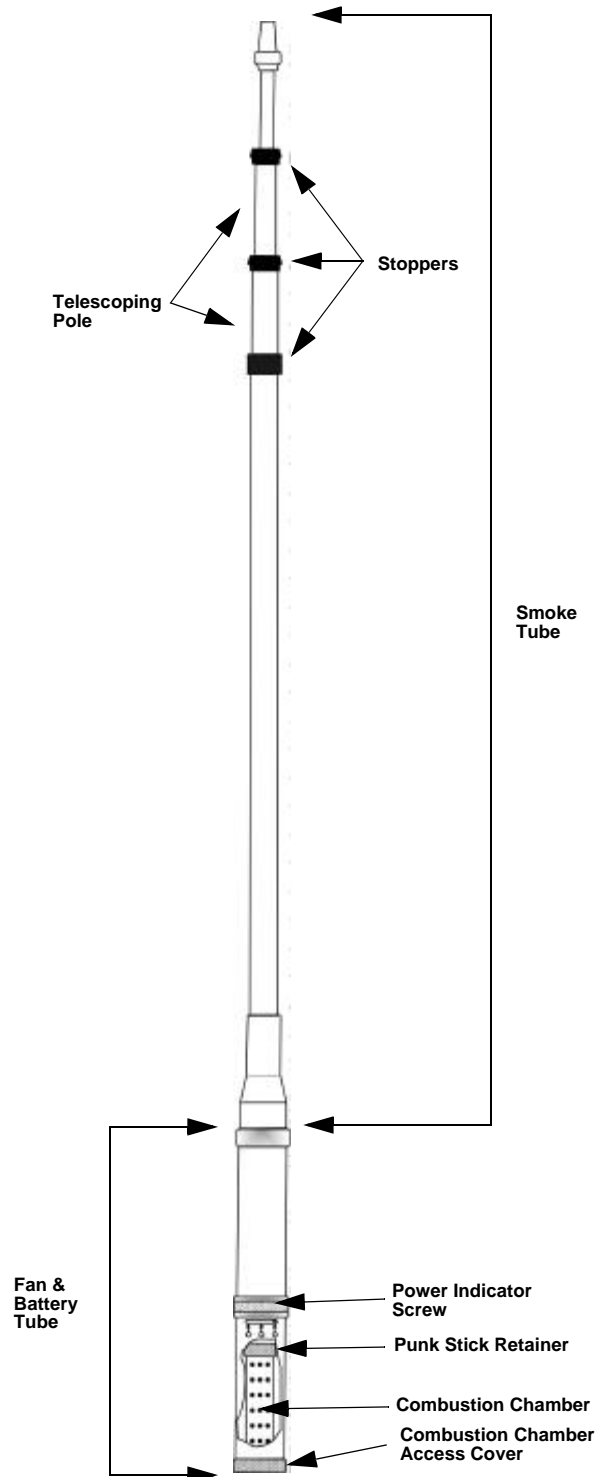

Figure 5: TSE-A100 Smoke Tester
1. Rotate the combustion chamber so the power indicator screw lines up with the number one. See Figure 5.
2. Unscrew the combustion chamber access cover and slide the combustion chamber out of the fan & battery tube. See Figure 5.
3. Unscrew the punk stick retainer. See Figure 5.
5. Screw the punk stick retainer back into the combustion chamber. See Figure 5.
6. Screw the combustion chamber back into the fan & battery tube. See Figure 5.
7. Unscrew the smoke tube from the fan & battery tube. See Figure 5.